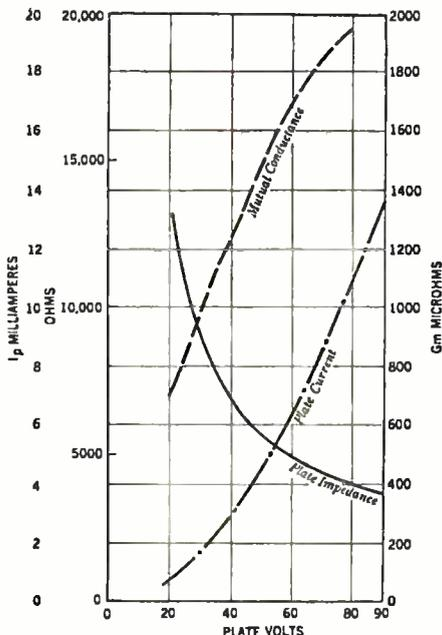

FIG. 1
Determine the plate resistance and mutual conductance for several values of plate and grid voltages, taking the data from that obtained in Sheet No. 5. Plot these values as shown in Fig. 1 and Fig. 2.
4. The curve in Fig. 1 does not have the values of μ plotted on it. Calculate these values and plot. What kind of tube do you think it is?
The mutual conductance may be determined by noting the effect on the plate current produced by a given change in grid voltage. Looking at Fig 1, Sheet No. 5, we note down the following data taken from the point where the plate voltage is 45.